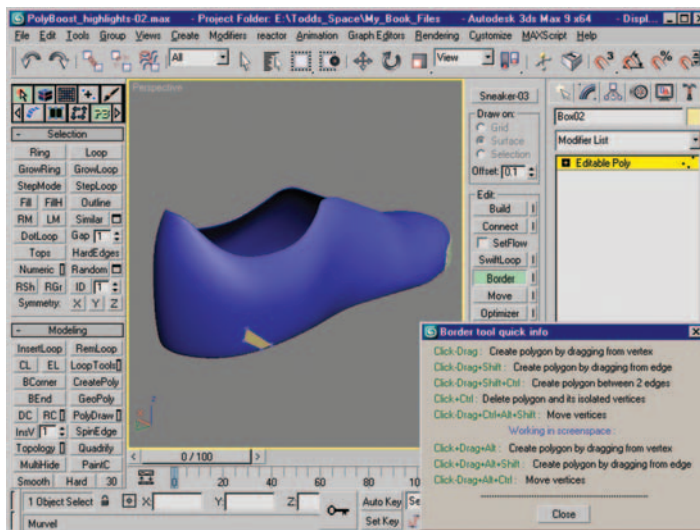

Figure 12.30 Border button is active (green), and the Quick Info list for the Border tool is displayed.
5. The Build button should still be highlighted in green. Click on the Border button to activate it. Also click on the Border Tool Quick Info button to bring up a list of key combinations for the tool. Figure 12.30 shows the Border button activated as well as the Quick Info for the tool displayed.